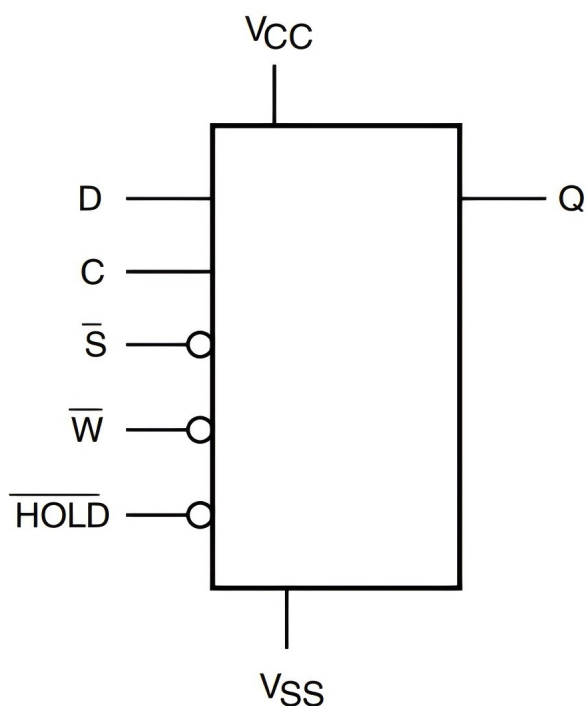

Figure 1. Logic diagram
The SPI bus signals are C, D and Q, as shown in Figure 1 and Table 1. The device is selected when Chip Select (S) is driven low. Communications with the device can be interrupted when the HOLD is driven low.